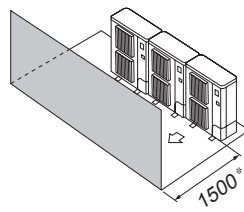

Fig. 4-14
- ③ Obstacles at front only (Fig. 4-14)